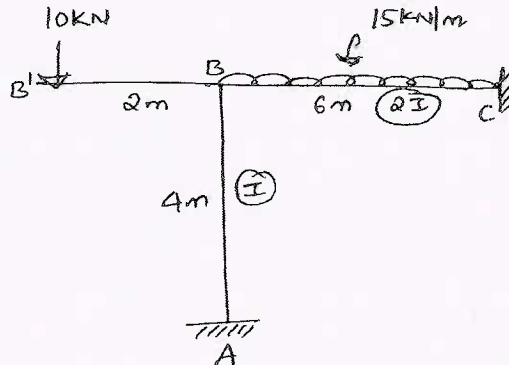

Fig.Q4
- 4 Analyze the given frame shown in Fig.Q4 by moment distribution method. Sketch BMD.